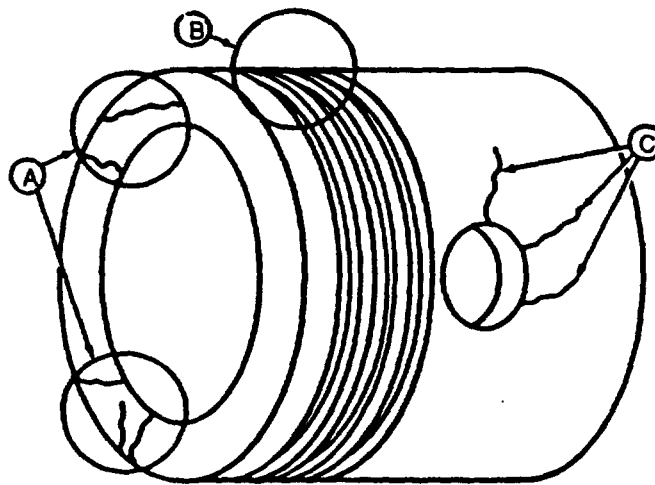

FIGURE 3-128. Piston Inspection
- i. Look for fine cracks in piston head, refer to FIGURE 3-128.